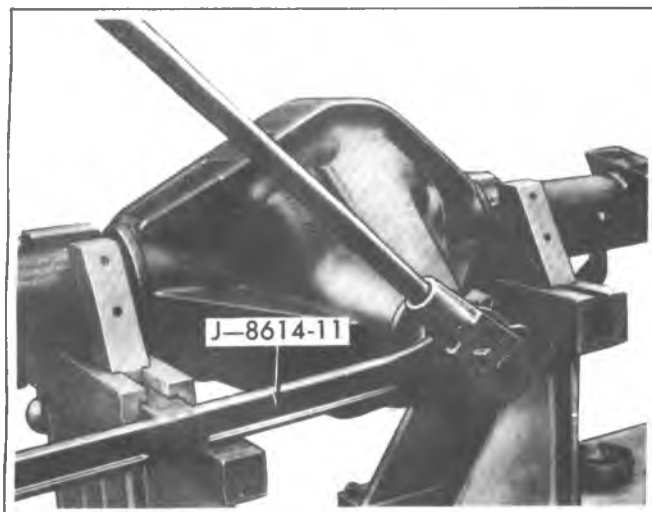

Fig. 5F-Removing Pinion Nut
3. Install Holder J-8614-11 on flange by using two bolts with flat washers, as shown in figure 5F. Position J-8614-11 on flange so that the four notches are toward the flange.